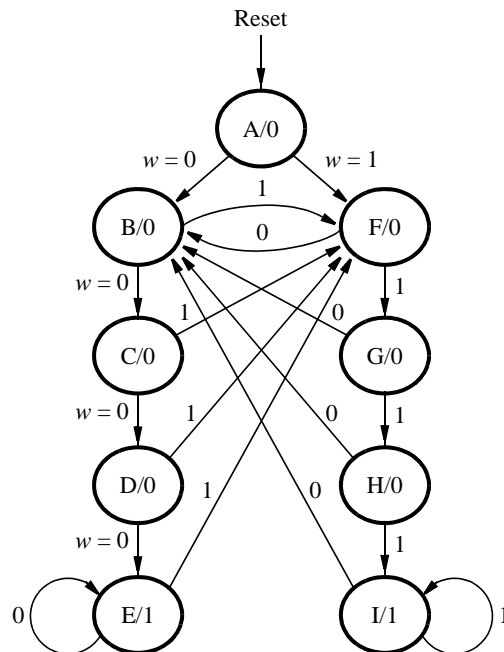

Figure 2: A state diagram for the FSM.
A state diagram for this FSM is shown in Figure 2. For this part you are to manually derive an FSM circuit that implements this state diagram, including the logic expressions that feed each of the state flip-flops. To implement the FSM use nine state flip-flops called y_8, \dots, y_0 and the one-hot state assignment given in Table 1.
For this part you are to write another style of Verilog code for the FSM in Figure 2. In this version of the code you should not manually derive the logic expressions needed for each state flip-flop. Instead, describe the state table for the FSM by using a Verilog **case** statement in an **always** block, and use another **always** block to instantiate the state flip-flops. You can use a third **always** block or simple assignment statements to specify the output z . To implement the FSM, use four state flip-flops y_3, \dots, y_0 and binary codes, as shown in Table 3.
4. Compile your project. To examine the circuit produced by Quartus open the RTL Viewer tool. Double-click on the box shown in the circuit that represents the finite state machine, and determine whether the state diagram that it shows properly corresponds to the one in Figure 2. To see the state codes used for your FSM, open the **Compilation Report**, select the **Analysis and Synthesis** section of the report, and click on **State Machines**.